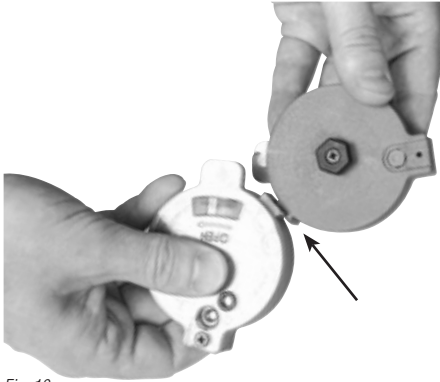

Fig. 10
5. If you would like, you can load a second magazine and attach to magazines to each other as shown in (Fig. 10)